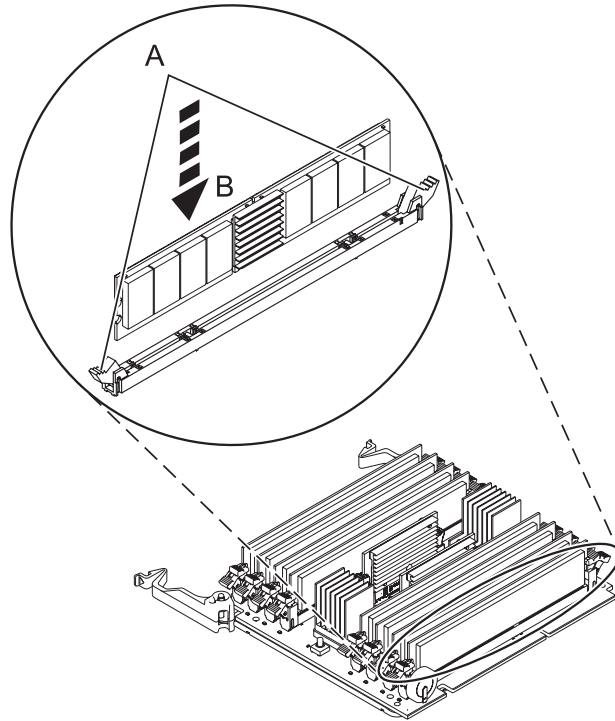

Figure 18. Replacing a memory module
11. Ensure that the connector locking tabs (A) are pushed open into the unlocked position, as shown in Figure 18 on page 36, before installing a new memory module.
12. Carefully grasp the memory module along the edge (B) and align it with the connector.